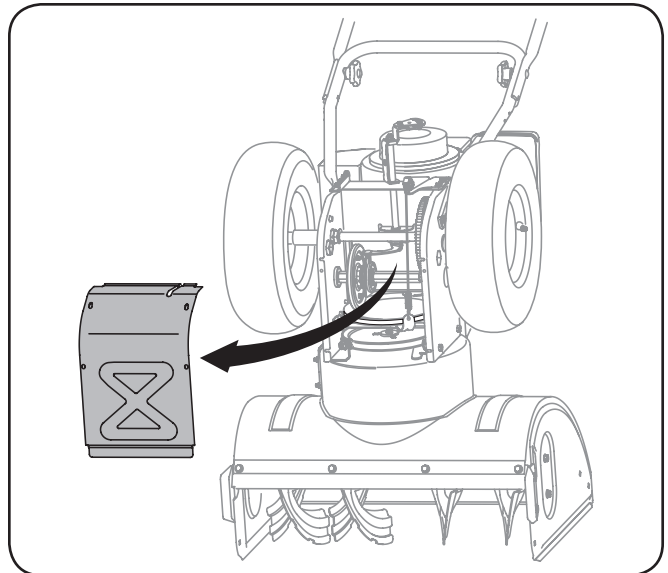

Figure 7-3
3. Remove the frame cover from the underside of the snow thrower by removing the self-tapping screws which secure it. Refer to Figure 7-3.
5. Remove the frame cover from the underside of the snow thrower by removing the self-tapping screws which secure it. See Figure 7-3.
- Remove the frame cover from the underside of the snow thrower by removing the self-tapping screws which secure it. Refer to Figure 7-3.
- Remove the frame cover from the underside of the snow thrower by removing four self-tapping screws which secure it. See Figure 7-3.